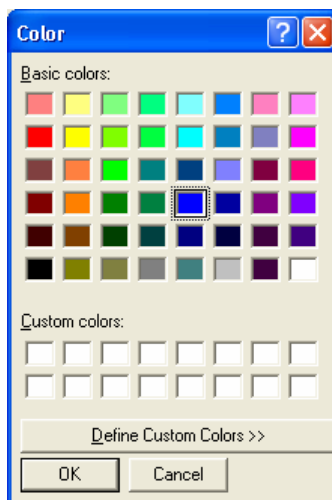

Figure 41 - Standard Colour Dialog
In each case, the standard colour dialog (Figure 41) is used to set the new colour. Forty-eight standard colours are available as well as an almost infinite number of user-defined custom colours.
1. Choose **Setup** ➔ **Graph Colours** ➔ **Current Lap** from the main menu. The Standard Colour Dialog (Figure 41) appears.
1. Choose **Setup** ➔ **Graph Colours** ➔ **Reference Lap** from the main menu. The Standard Colour Dialog (Figure 41) appears.
1. Choose **Setup** ➔ **Map Colours** ➔ **Track** from the main menu. The Standard Colour Dialog (Figure 41) appears.
1. Choose **Setup** ➔ **Map Colours** ➔ **Segments** from the main menu. The Standard Colour Dialog (Figure 41) appears.